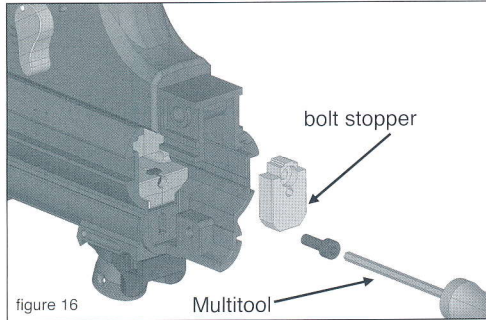

figure 16
6. Remove the bolt stop with the multitool or by hand. (figure 16)